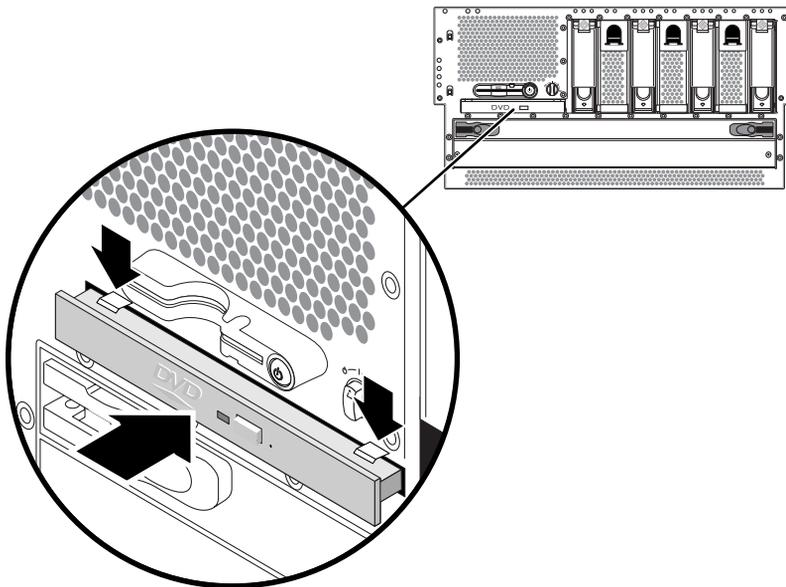

FIGURE A-2 Installing the DVD drive.
5. Slide the DVD drive into the system until the two DVD drive locking tabs click into place (FIGURE A-2).